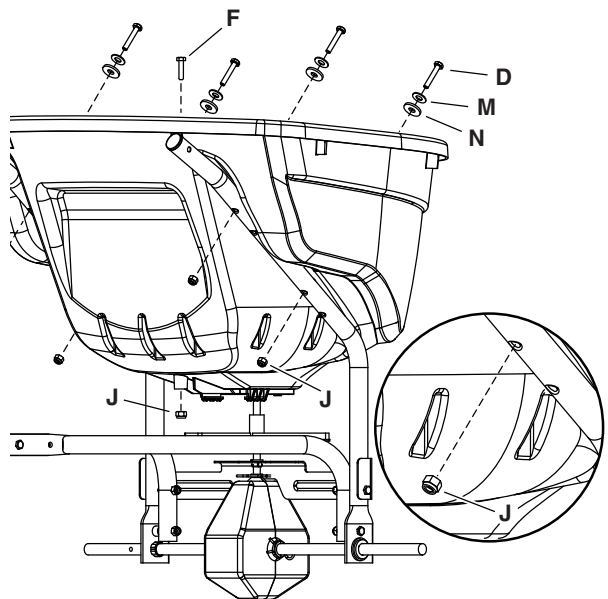

Figure 8
STEP 8: (SEE FIGURE 8)
- Attach the hopper to the upper set of holes in the hopper support tubes using four 1/4" x 1-3/4" hex bolts (D), 1/4" washers (M), nylon washers (N) and 1/4" nylock nuts (J). **Make only finger tight.**
- Insert the 1/4" x 1" hex bolt (F) into the hole in the bottom of the hopper, pressing the head of the bolt into the hex shaped recess. Install a 1/4" nylock nut (J) onto the bolt and **tighten**.